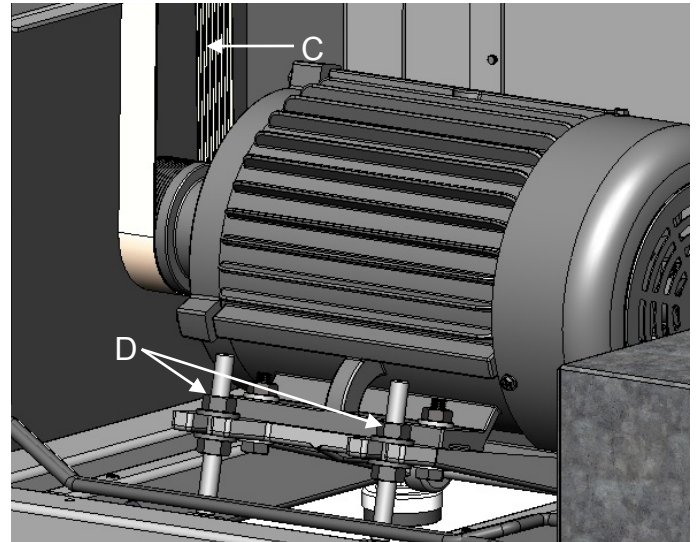

Figure 22: Poly-V-Belt Adjustment
Poly-V-belt (Fig. 22, D) tension has been set at the factory. If the belt has stretched and need adjustment.
2. Open lower rear, and lower left-hand side panels. Loosen and tighten four adjustment nuts (Fig. 22, D) to move motor plate up, or down to increase, or decrease belt tension.